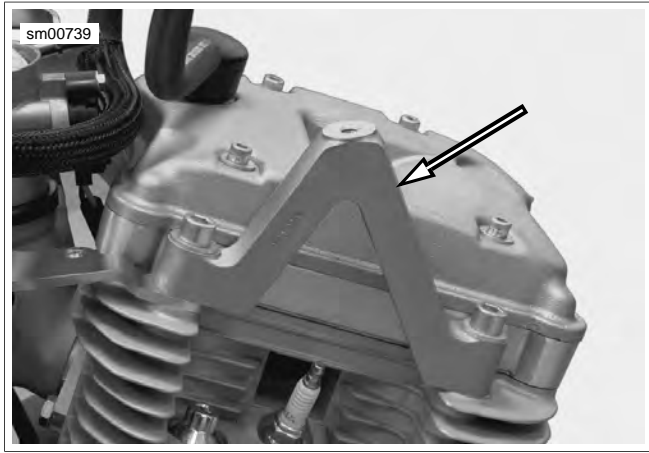

Figure 3-17. Center Tie Bar Mount
- b. See Figure 3-17. Center tie bar mount.